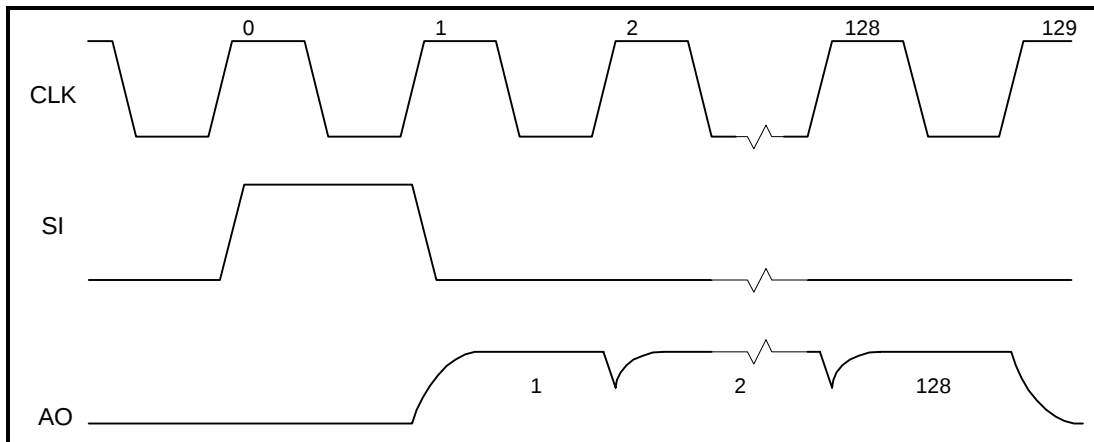

Figure 2 - System Timing (AO output for TSL1401 shown)
be selected from 2 MHz, 1 MHz and 500 kHz by moving the clock select jumper to the desired position (see Figure 1). U10, U11, and U12 generate the serial input (SI) pulse with the proper relationship to the clock (see Figure 2). The sensor integration time, defined by the time between SI clock pulses, may be selected from 128uS to 64mS by placing the jumper at the appropriate location.